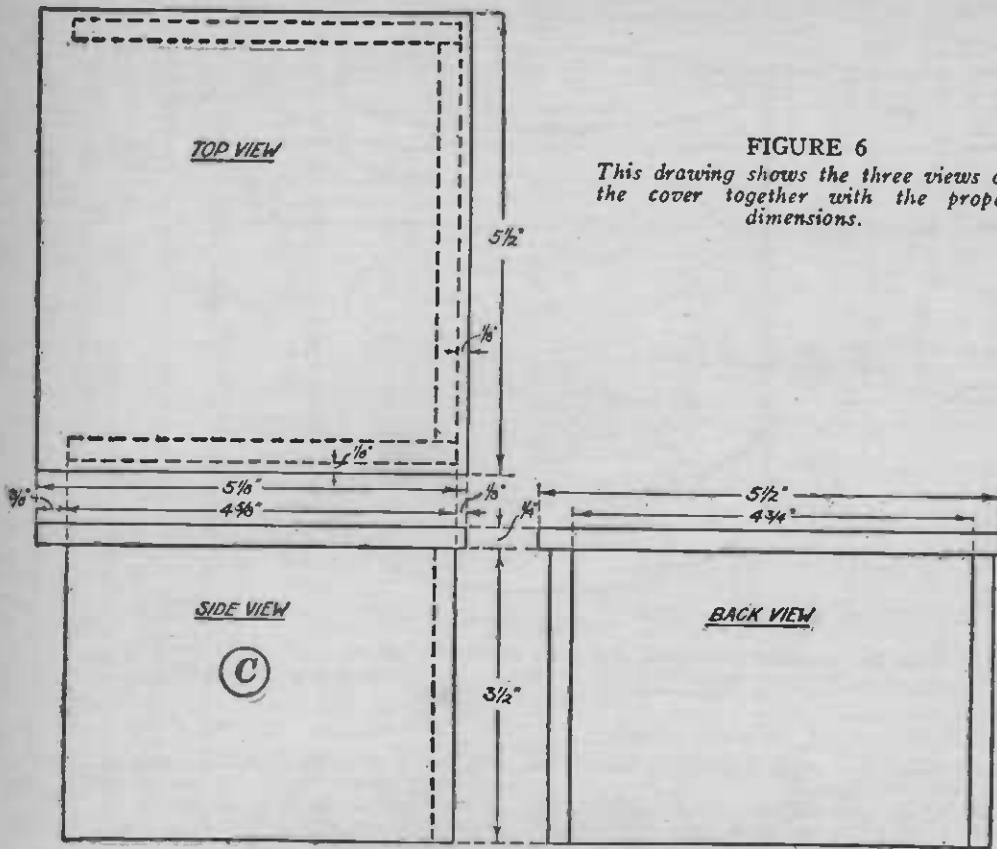

FIGURE 6
C. COVER (Figure 6). All dimensions are given in the drawing.
The parts of the cover, shown in Figure 6, are fastened together with glue and brads (or small screws) forming the completed cover which gives the set the finished appearance shown in Figure 1.